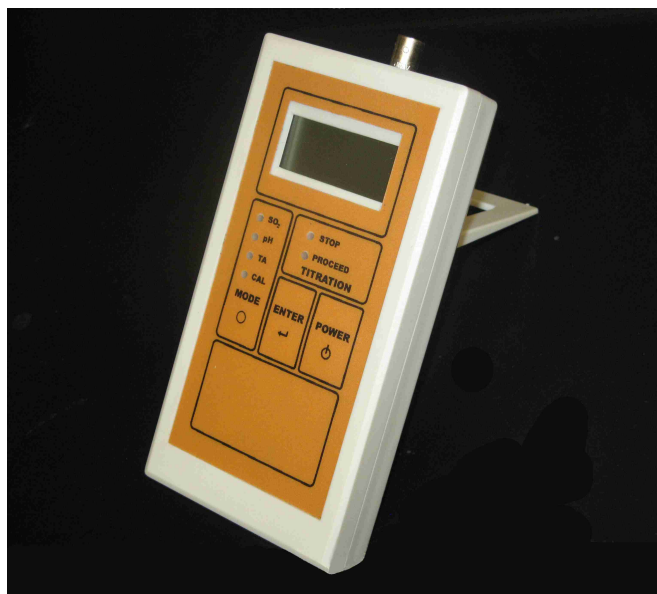

Figure 1. The SC-200
1. The SC-200 (Figure 1) runs on two standard AA batteries (alkaline cells recommended). To insert the batteries, open the battery housing on the bottom of the back of the unit by removing the two screws and gently prying off the lid. Install the batteries as shown by the + and – markings, then close the housing. If desired, you can prop the unit up using its folding stand.